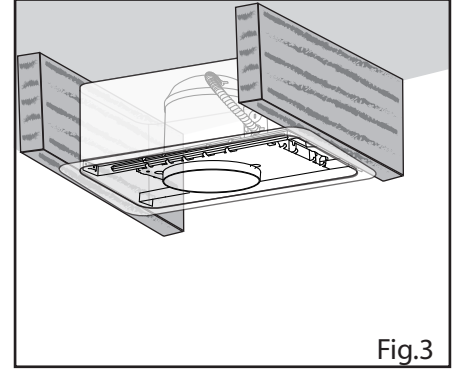

Fig.3
4. Position IC recessed light inside the vapor barrier and install as per recessed light installation instructions. (fig.3)